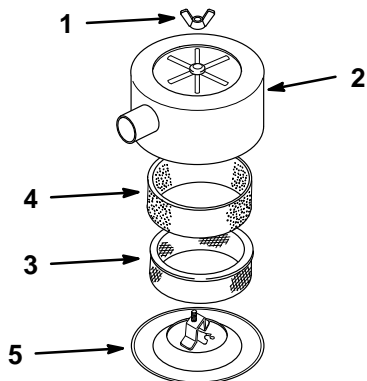

Figure 10
3. Clean around the air cleaner to prevent dirt from getting into the engine and causing damage. Unscrew the knob and remove the air cleaner cover (Fig. 10).
4. Carefully slide the foam element off the paper element (Fig. 10).
5. Unscrew the cover nut and remove the cover and paper element (Fig. 10).
1. Carefully slide the foam element onto the paper air cleaner element (Fig. 10).
2. Place the air cleaner assembly onto the air cleaner base (Fig. 10).
3. Install the air cleaner cover and secure with cover nut (Fig. 10).